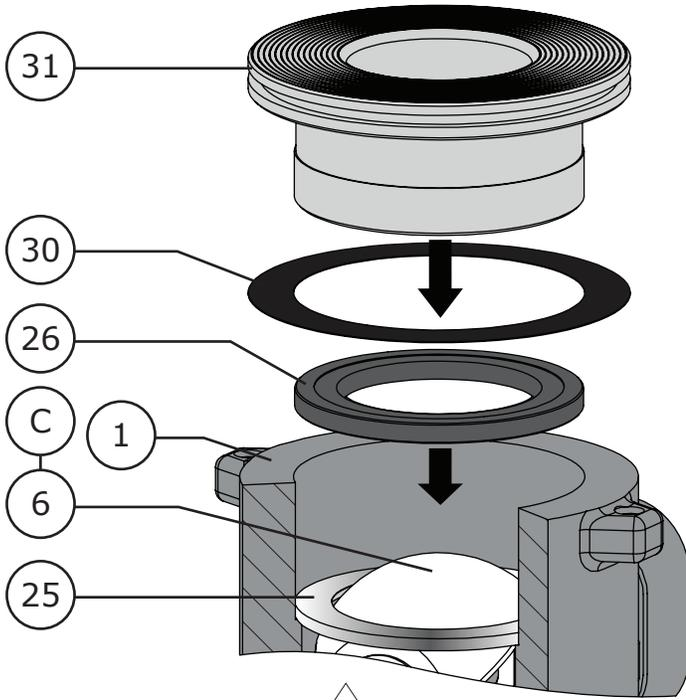

Figure 63 1 to 2 Inch Ball Seal Installation
- 2** For 1, 1-1/2, and 2 inch valves, install the backup ring (Key 25). Refer to Figure 63. The backup ring must be installed to properly check the position of the valve ball (Key 6) as detailed in Step 3.